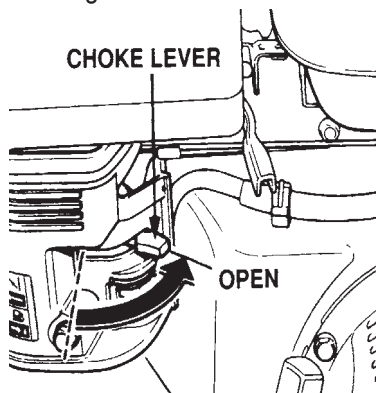

Figure 11. Engine Choke Lever (Open)
3. Place the *choke lever* (Figure 11) in the **OPEN** position if starting a **cold** engine.
3. Place the **throttle lever** (Figure 11) in the **SLOW** position. Idle engine 3-5 minutes for gradual cooling.
5. Place the engine **ON/OFF switch** (Figure 11) in the **OFF** position.